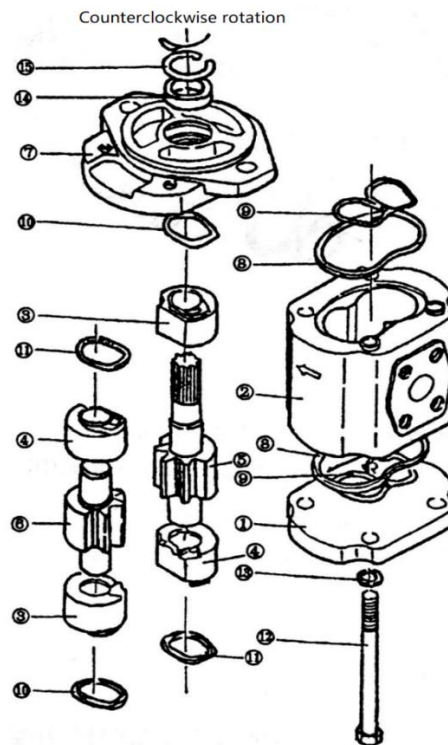

Figure 9-3 Rotating the gear pump counterclockwise
Remove it (see Figure 9-3).
- e. Figure 9-3 shows the sequence for easy check.